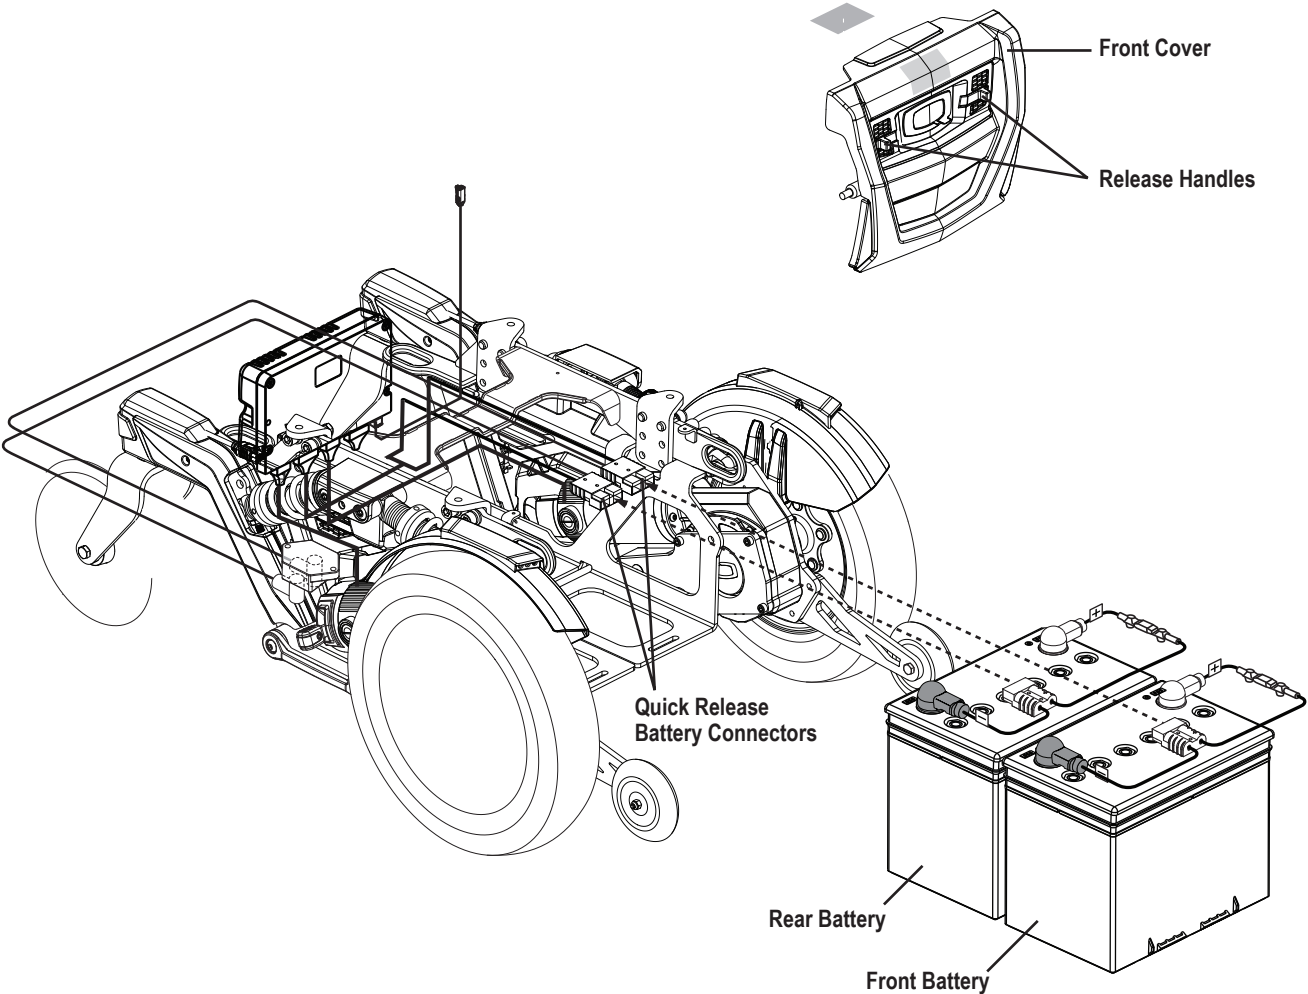

Figure 11. Battery Installation
3. Remove the front cover by squeezing the release handles (**see figure 11**) and lifting the front cover up and away from the power base.
4. Disconnect the quick release battery connectors. **See figure 11.**
7. Connect the battery harness to the new front battery according to the battery wiring diagram. **See figure 11.**
8. Connect the battery harness to the new rear battery according to the battery wiring diagram. **See figure 11.**